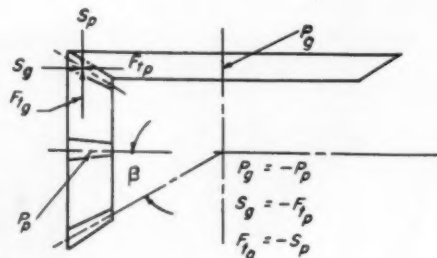

FIGURE 1. Forces on a straight bevel gear set due to power transmission.
There are three force components to be considered with gears of this type. They are: (1) tangential force, (2) separating force, and (3) thrust. Directions of these loads are shown in Figure 1. Tangential force is found from